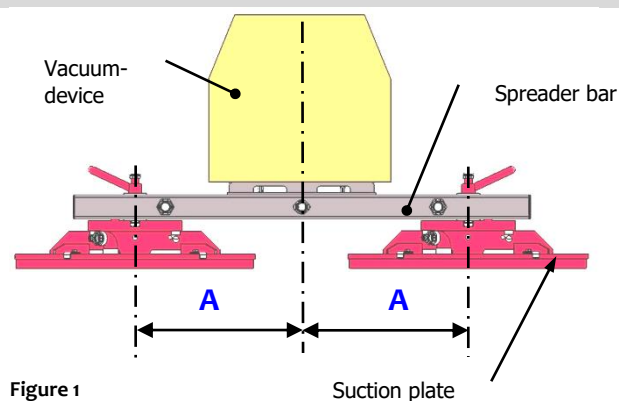

Figure 1
The suction plates must always have the *same* distance (A) to the vertical centre axis of the crossbar (see figure 1).